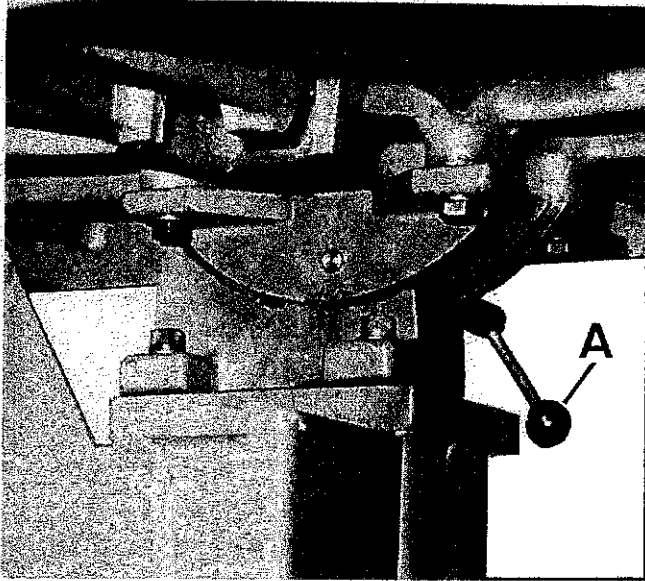
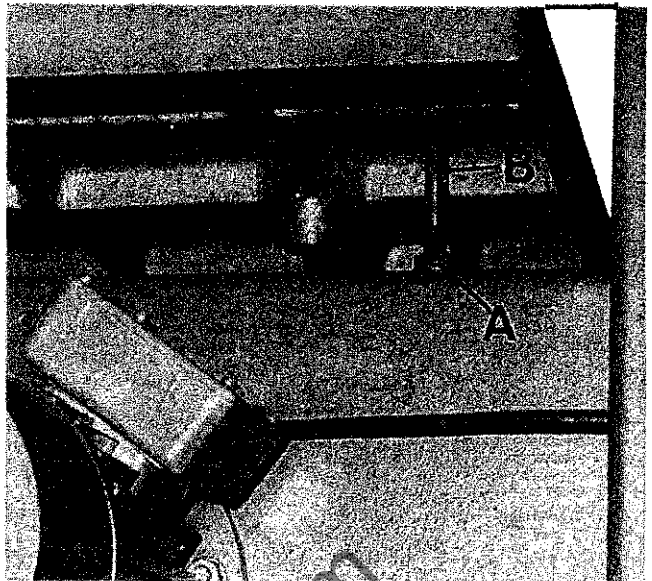
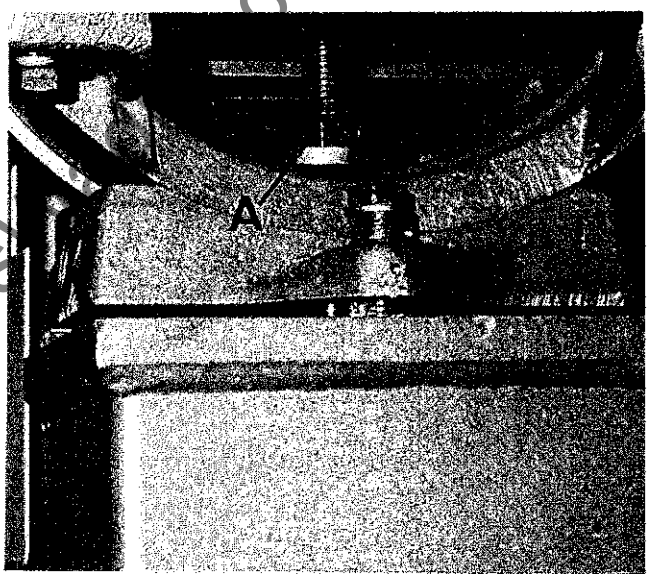

FIG 17
FIG 18
FIG 20
2. Loosen lever "A" FIG.17. (C5 & 6) Loosen Nut "A" FIG.20. (C7,8, & 9).
4. If adjustment is necessary, loosen lever "A", FIG.17, and M12 Locknut "A". FIG.18.
5. Set table square to sawblade by the steel square then relock lever "A", FIG.17.
6. Turn screw "B", FIG.18, until it locks against underside of table then relock M12 Locknut "A".
A rigid rip fence FIG.20, is mounted on a round slide bar fitted to edge of table. This fence can be mounted to rip either to inside or outside of bandsaw blade.